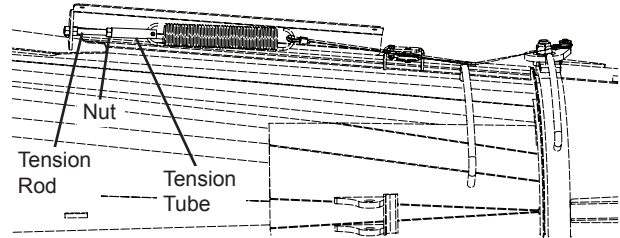

Figure 145
4. Loosen the nuts on the tension rod during the adjustment (Figure 145).
5. Use a pair of vice grips or other suitable tool to hold the tension tube and turn the tension rod clockwise to increase the tension or counter-clockwise to reduce the tension (Figure 145).